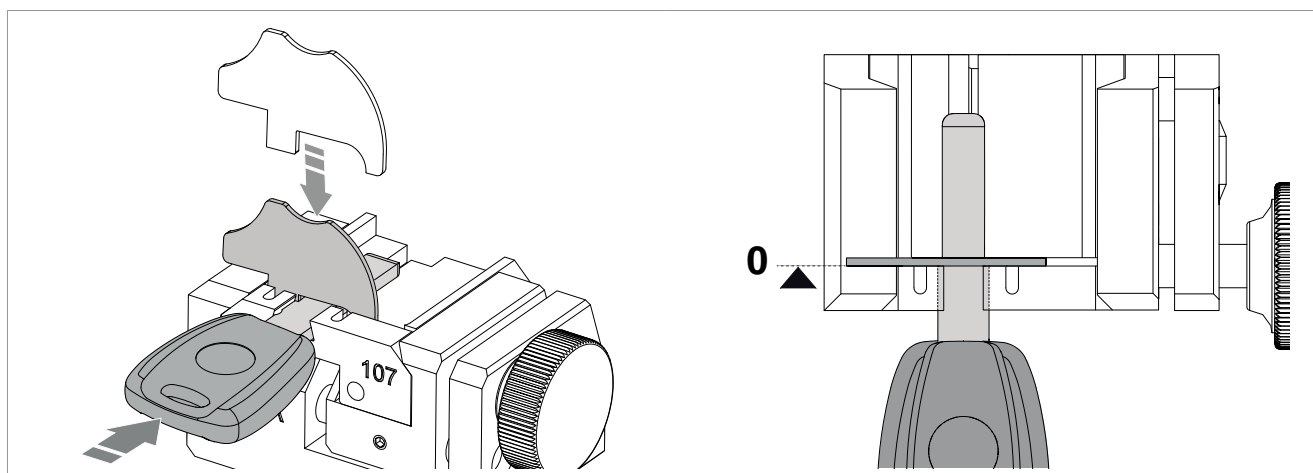
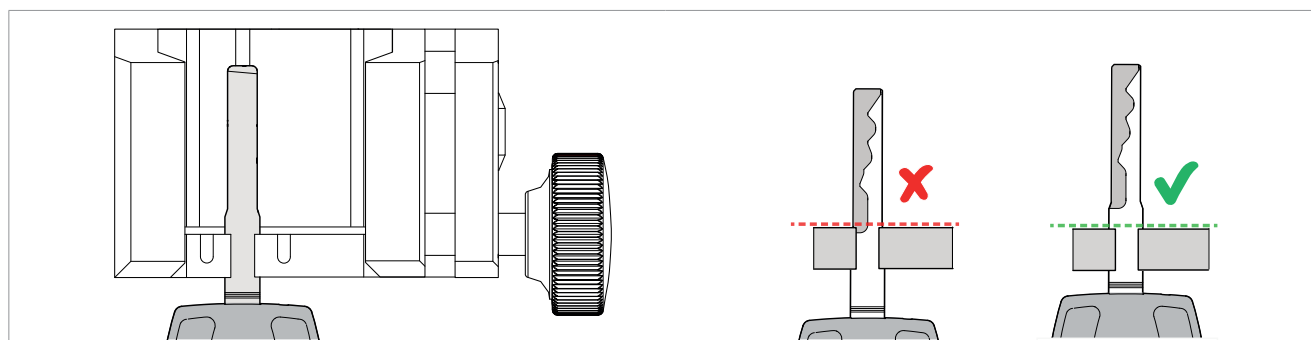

Fig. 33 - KEYS WITH STOPS
Fig. 38 - KEYS WITH TIP REFERENCE
- clamp stop (Fig. 33 and Fig. 38)
Position the key with the stops up against the special stop bar (Stop "0") (Fig. 33).
- 2) Insert the key to be cut, making sure it sits flat on the surface, and take the stop up against the bar (Fig. 33).
- 3) Tighten the knob (M) to secure the key.
Position the key as wished, bearing in mind that cutting (existing or to be done) must begin beyond the locking line/zone (Fig. 38).